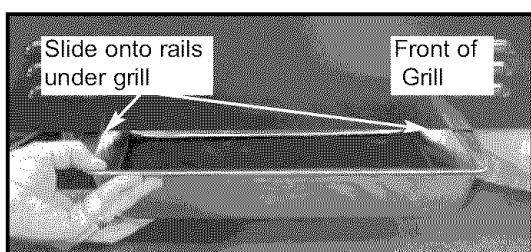

Fig. 12
2. Slide the drip pan onto the two ledges located on the bottom of the grill, by inserting it from the front of the cart. (See Fig. 12)